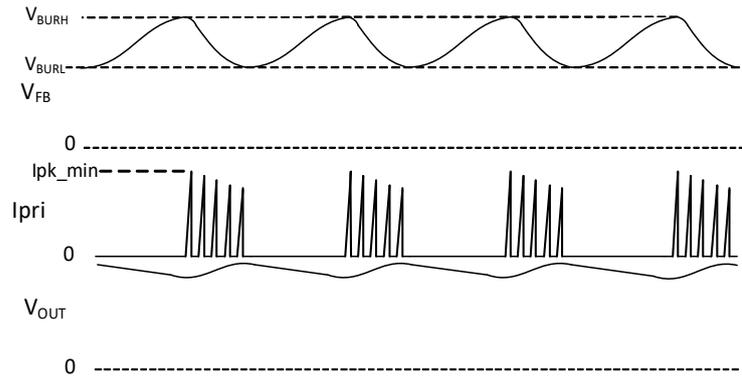

Figure 23. Burst Mode Operation at Light Load
- Burst Mode – At light load, the regulator transitions into the burst mode operation to save IC power consumption. While the load decreases, the FB voltage is reduced. When the load drops below V_{BURL} , the part enters burst mode operation, and the IC stops switching. When FB voltage rises back to V_{BURH} , the IC resumes switching until FB voltage falls back to V_{BURL} . In Burst mode, the peak current is typically not more than V_{CS_MIN}/R_S excluding the overshoot, and the burst frequency is below 3kHz, which effectively minimizes the audible noises. See the Burst mode operation in Figure 23.